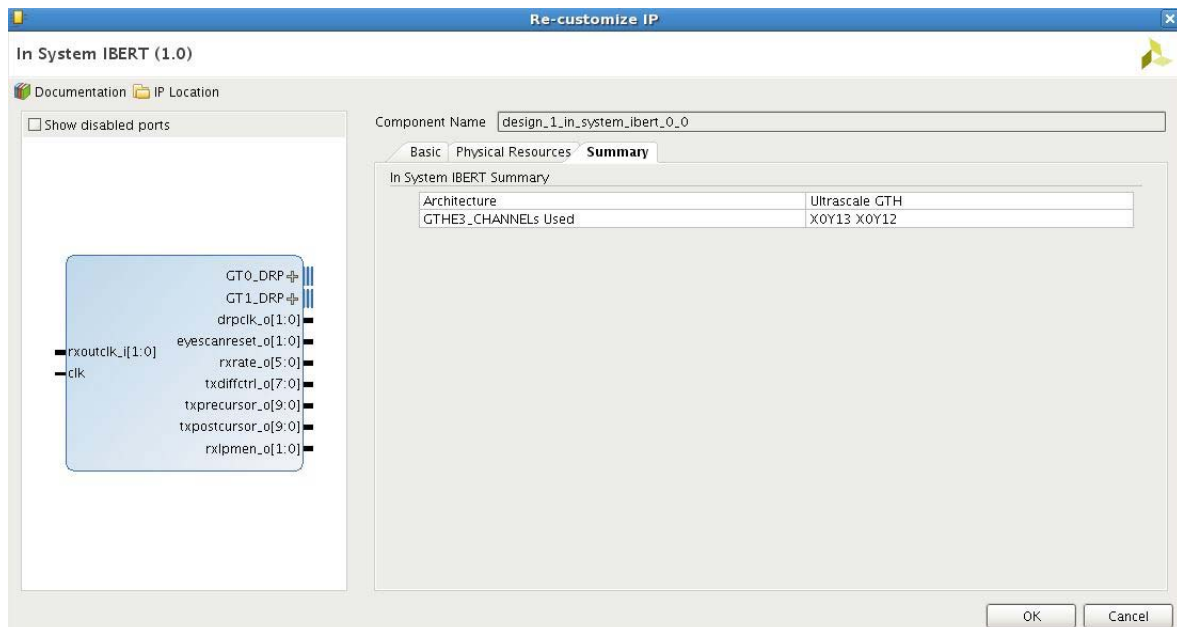

Figure 5-2: Summary Tab
- Click on the **Summary** tab of GUI and check the selected transceiver as shown in Figure 5-2.